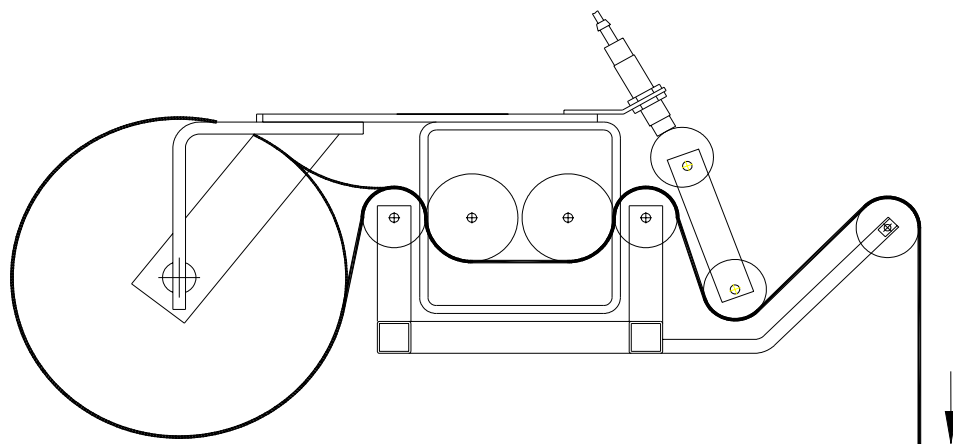

Fig. 2 CLOSED CRADLE
8. When the film distributor is completed (fig. 2) - turn the power switch on.